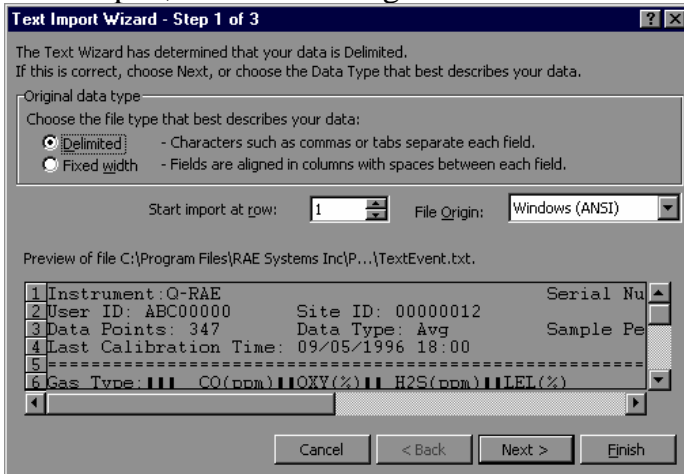

Figure C-3 Text Import Wizard Dialog Box
- Click the **OK** button; a **Text Import Wizard** dialog box is open, as shown in Figure C-3.